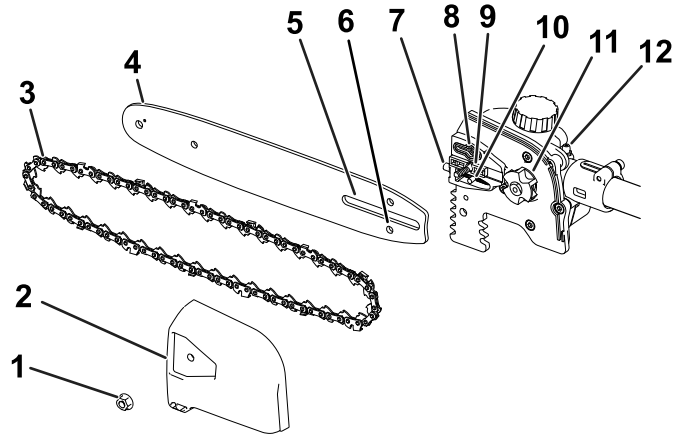

Figure 15
2. Remove the side cover; turn the bar cover screw counterclockwise until the screw is removed, then remove the side cover (Figure 15).
Important: Ensure that the chain adjusting stud is inserted into the chain adjusting stud slot on the guide bar (Figure 15).
You may need to rotate the chain-tensioning screw to fit the stud into the slot on the guide bar (Figure 15).
7. Check the oil outlet (Figure 15) for debris and clean the area if necessary.
2. Clean the grease fitting with a rag (Figure 15).